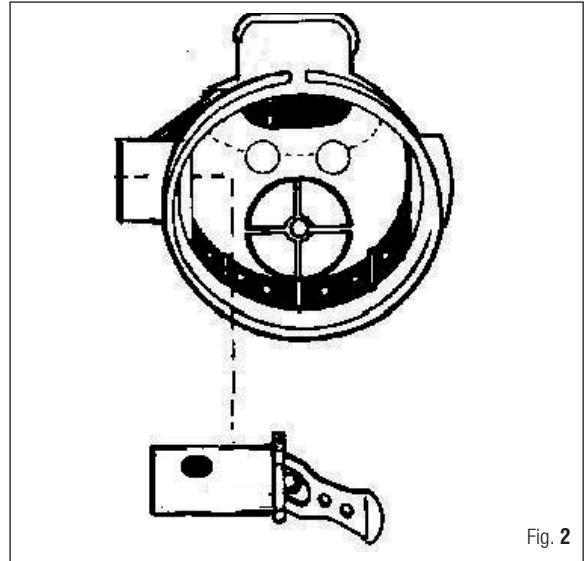
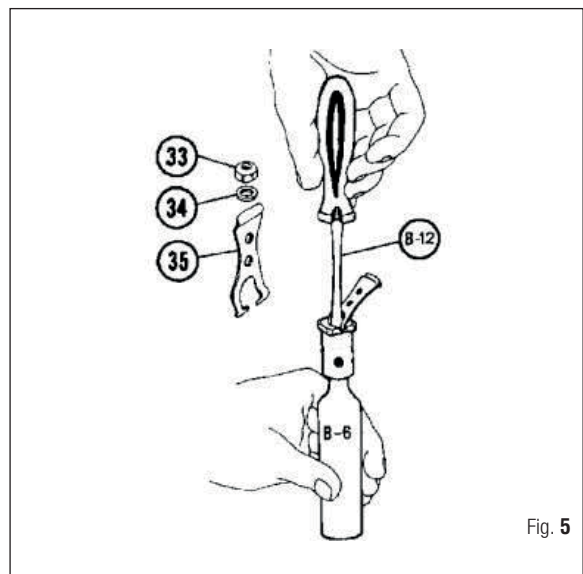

Fig. 2
Fig. 5
21. Gently press the demand lever connector assembly into the case (Fig. 2).
22. Remove the O-Ring (83) from its seat in the second stage case (32).
23. Position the demand lever connector assembly on the special tool (B-6) and use the screwdriver (B-12) to unscrew the retaining nut (33) from the demand lever (35). Then remove the washer (34), the poppet assembly (30+47+92), and the spring (31) (Fig. 5).
24. Remove the poppet seat (47), pressing slightly on the poppet seat holder (92) in the direction of the threaded stem.
25. Remove the poppet seat holder (92) from the stem of the 2nd stage valve shaft (30).
26. Remove the exhaust valve (40). (40).
33. Correctly position the demand lever (35) in the 2nd stage metal insert (91).
34. Fit the washer (34) on the poppet stem and tighten the demand lever adjusting nut (33) 2-3 threads using the special wrench (B-12) (Fig. 5).
PRESS THE DEMAND LEVER A FEW TIMES TO BE SURE IT IS ABLE TO MOVE FREELY. **CORRECTLY POSITION THE DEMAND LEVER CONNECTOR ASSEMBLY (91) IN THE 2ND STAGE CASE (FIG. 2)**